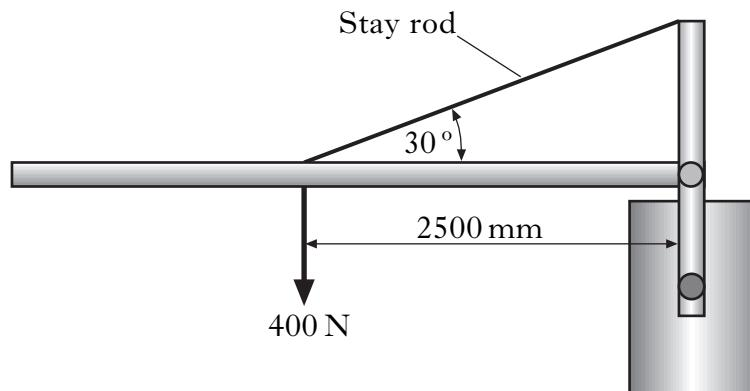

Figure Q8(a)
- 8.** A car park barrier is shown in Figure Q8(a).